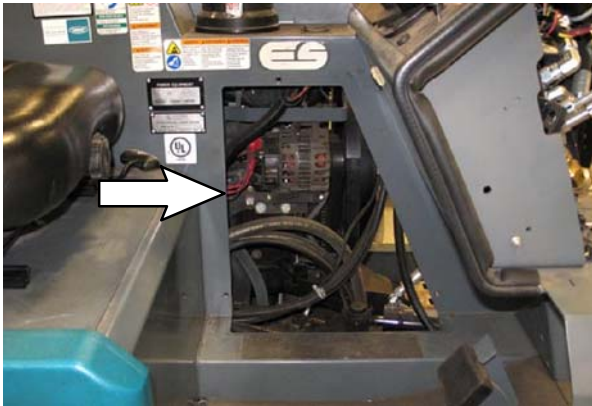

FIG. 1
3. Remove the engine access panel from the operator compartment. Set the access panel and hardware aside. Refer to Fig. 1.